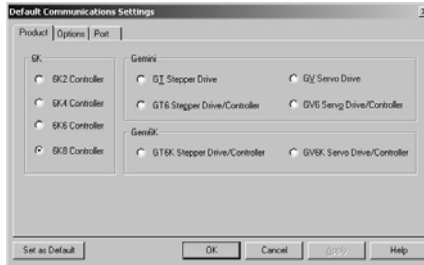

Figure 2-4: Selecting the Controller
- On the **Product** tab, select the 6K/GV6K/GT6K controller that you will use, as shown in Figure 2-4.